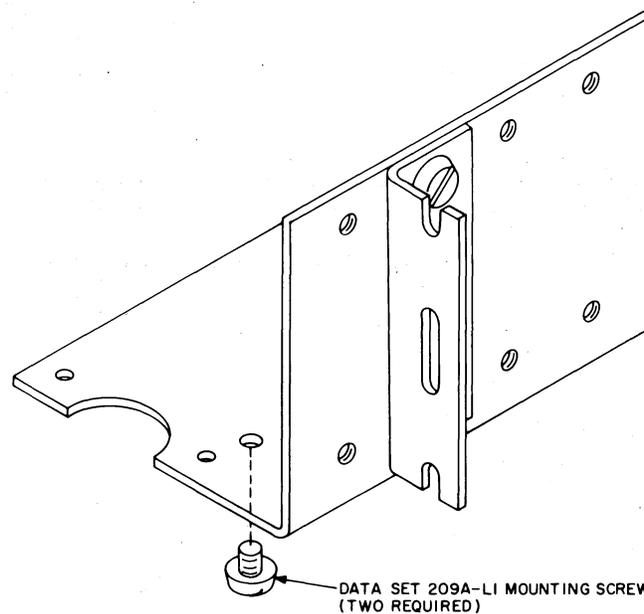

Fig. 14—Data Set 209A-L1 Mounting Bracket (D-180556)
- (b) With suitable mounting brackets (D-180556), the data sets (including faceplates) can be mounted in a 23-inch rack mounting. The small right angle mounting flange can be assembled to the mounting bracket as shown in Fig. 14. If an adjustment to the depth at which the data set is positioned in the rack mounting is required, the small right angle mounting flange can be assembled to the mounting bracket by using the additional holes.